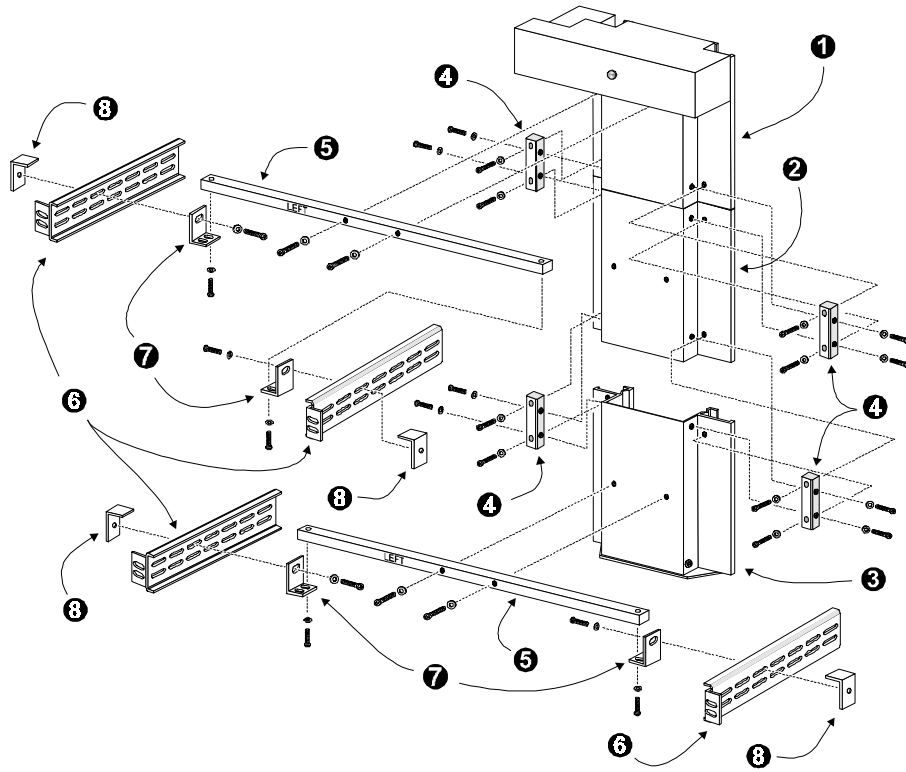

Figure 2-1. XpressChannel External Parts
Locate and identify the XpressChannel internal and external parts. The XpressChannel is made up of the following external parts, shown in Figure 2-1:
Note: The slide extensions, (6) in Figure 2-1, are not enclosed with the XpressChannel parts. They are supplied as part of the installation hardware for the slides that come with each of the modules.
Refer to Figures 2-1 and 2-4.
8. Referring to Figure 2-1 and 2-4, remove the eight screws holding a pair of tie bars in place. Separate the XpressChannel at that joint.